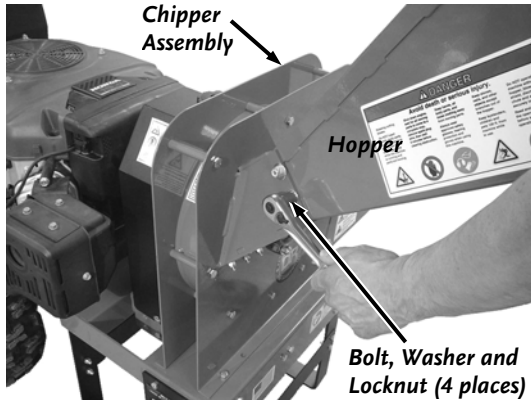

Figure 34
1. Use a 1/2" wrench to remove the four Carriage Bolts, Washers and Locknuts that support the Hopper to the Chipper Assembly (**Figure 34**).